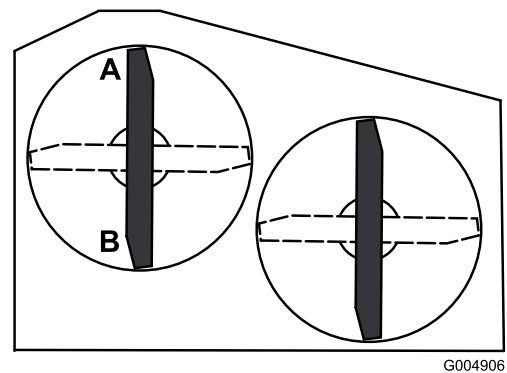
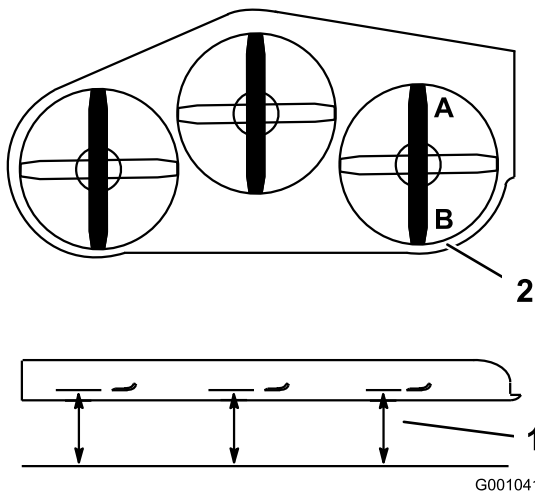

Figure 71
Figure 70
2. Position one blade front-to-rear. Measure at **A** and **B** locations from a level surface to the cutting edge of the blade tips (Figure 70 or Figure 71). For 36 inch mower decks use Figure 71.
4. Position the blades front-to-rear. Measure at C and D locations (Figure 70) from a level surface to the cutting edge of the blades.